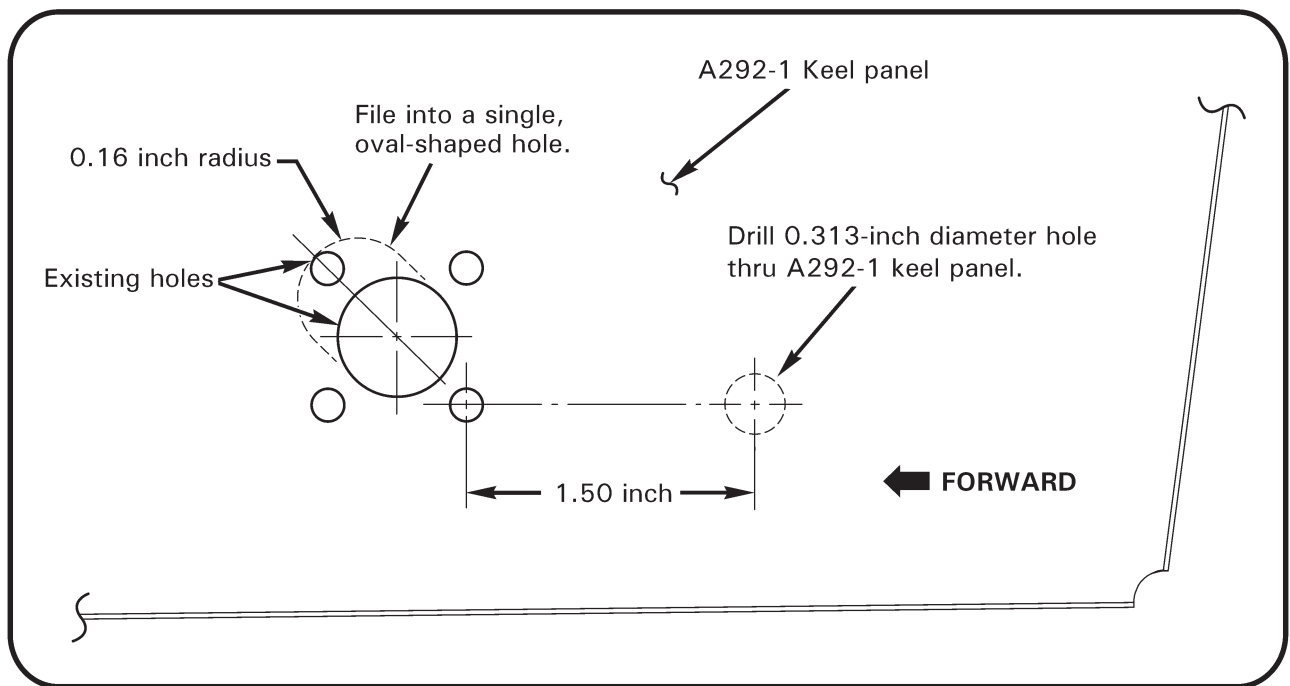

FIGURE 2
- b. Lay out hole dimensions in A292-1 keel panel per Figure 2. Cut and file existing holes in panel into a single, oval-shaped hole as shown. Drill one 0.313-inch diameter hole in panel and deburr. Solvent clean then epoxy prime bare metal.